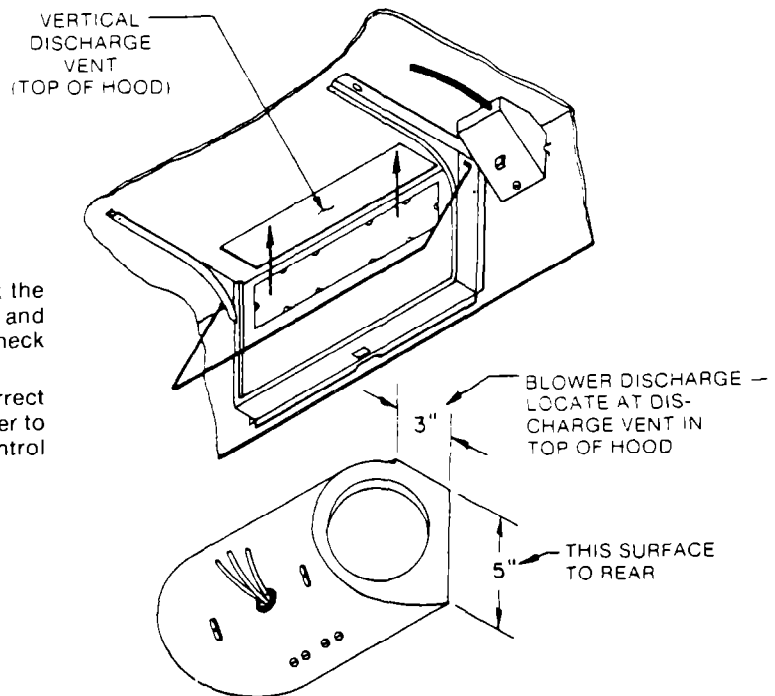

FIGURE 7
1. Figure 7 shows the proper Blower Assembly orientation for vertical discharge.
2. From the blower position shown in Figure 7, lift the Blower Assembly vertically into mounting position.